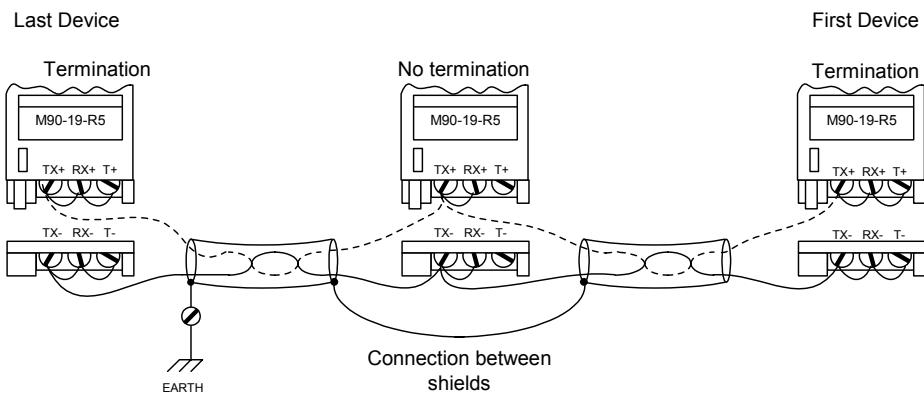

Figure 1 RS485 Terminal Wiring
- Do not cross positive (A) and negative (B) signals. Positive terminals must be wired to positive, and negative terminals to negative.
- You must create network termination points by using the two end point devices integrated into your network. Connect the T- terminal to Rx-, and T+ to RX+ in each end point device as shown in Figure 1 and Figure 2.
- To support RS485, connect the Tx+ terminal to the Rx+, and the Rx- terminal to the Tx-., as shown in Figure 1 on page 4.